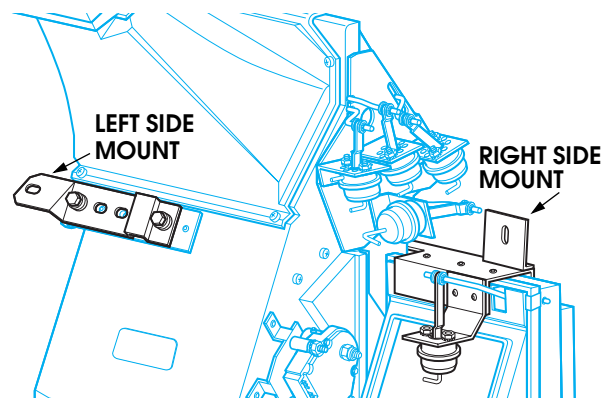

Figure 11-88: Interior Mounting Points
- 19. Remove interior bolt securing left and right side of the HVAC unit to the body. Support the unit prior to removing the second fastener to prevent the unit from falling down and causing possible damage or injury (Figure 11-88).